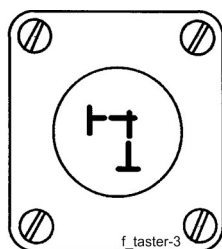
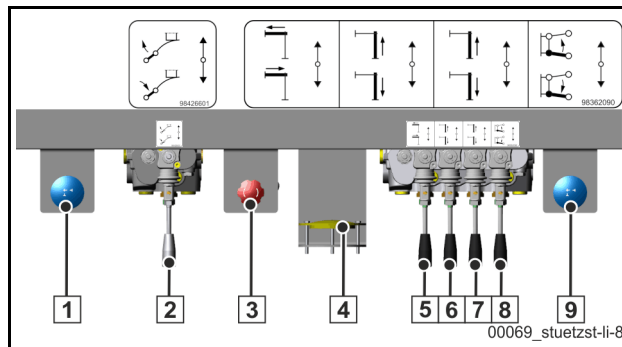

Fig. 263 Release button
Fig. 265 Example illustration: Outrigger control block for models S56SXF/S65SXF, on the left in the direction of travel
In order to move the outrigger cylinders, the release button (Fig. 263); (6) (Fig. 265) next to the outrigger control block must be held down while the control lever is actuated.
Caption (Fig. 265)